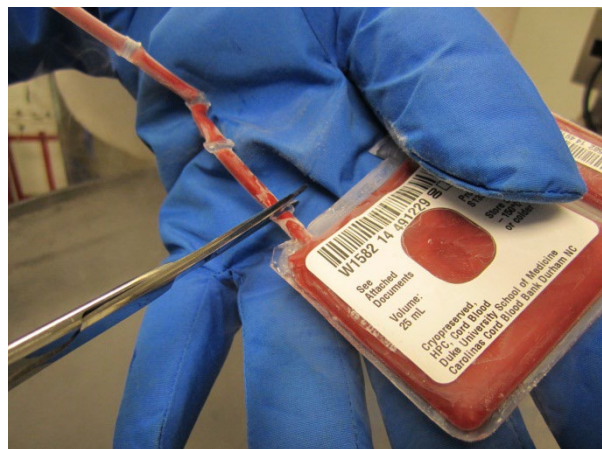

Figure 5b
- e. Cut and remove the cryobag segments, if present (see Figure 5b).